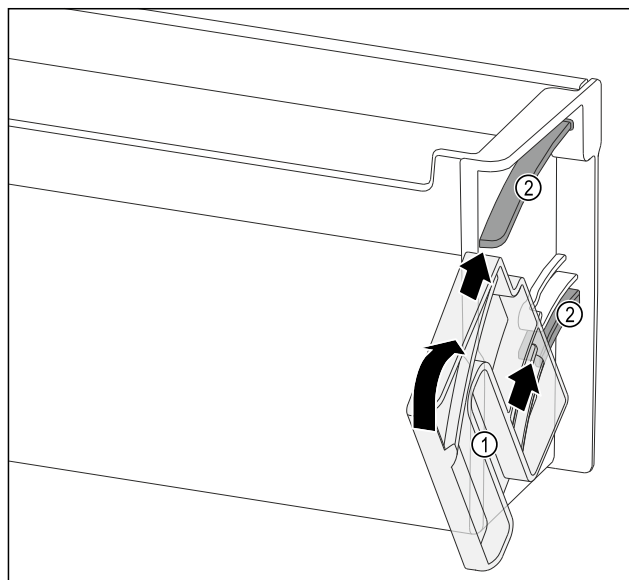

Fig. 124
- Position the swivel unit *Fig. 124 (1)* so that the recesses are exactly opposite the guide channels *Fig. 124 (2)* of the door racks.
- Turn the swivel unit *Fig. 124 (1)* in the specified direction.